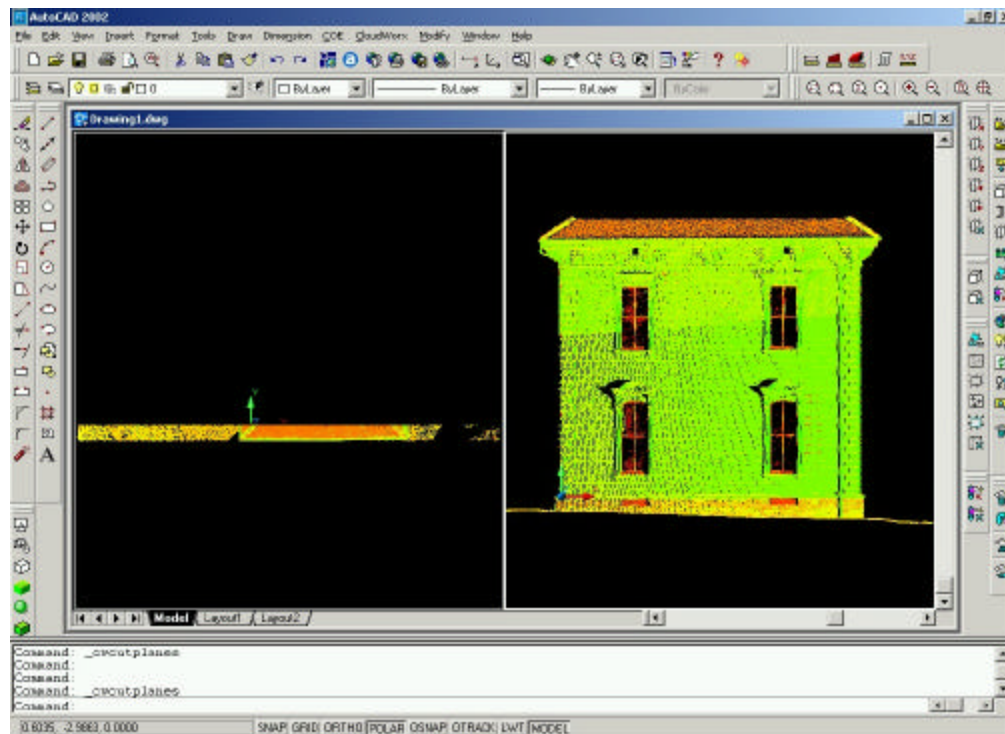

fig 4.2.2
6. Your display should now look like Fig 4.2.2.